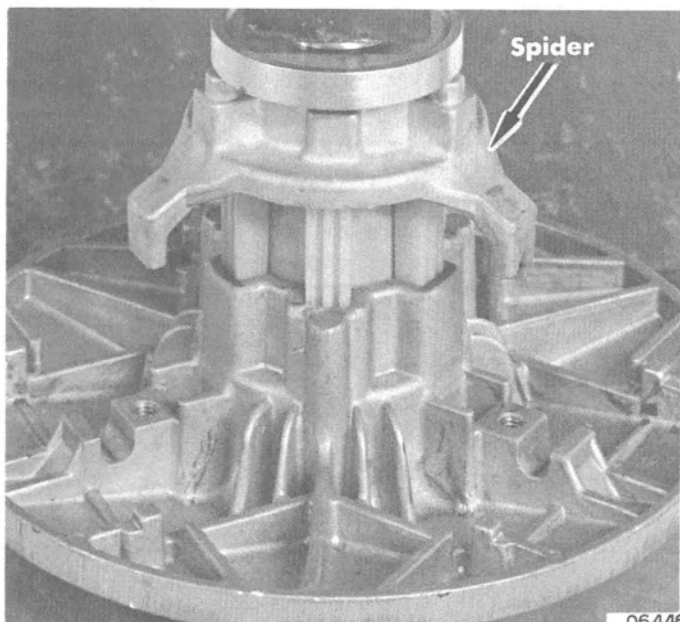

Figure 10. Installing Retractor
6. Align scribe marks on spider with scribe mark on fixed half of sheave and press spider flush with splined hub of fixed half of sheave. (Figure 10)